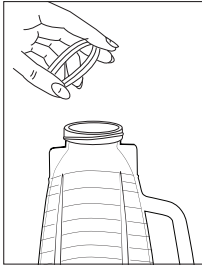

Figure 2
2. Place sealing ring over jar opening. (Figure 2)